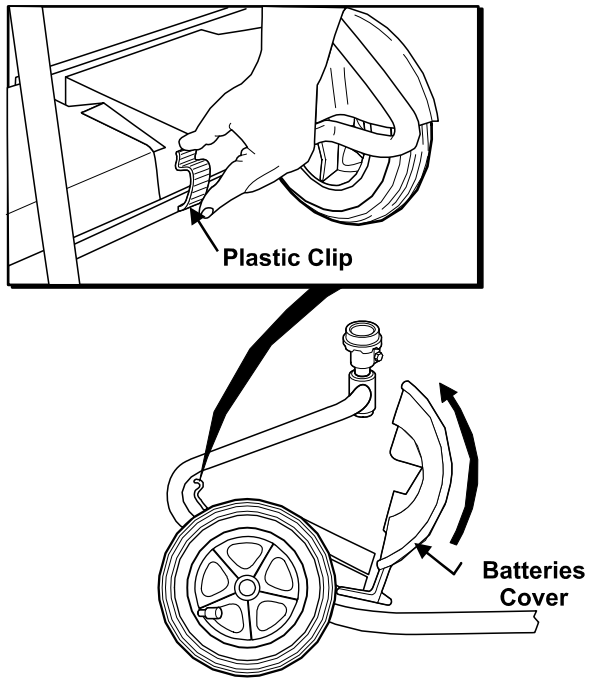

Figure 6.
2.4 Installation of Batteries Cover (See Fig. 6)